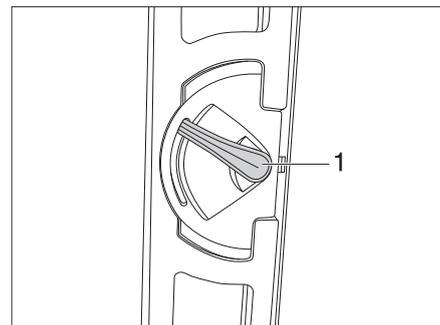
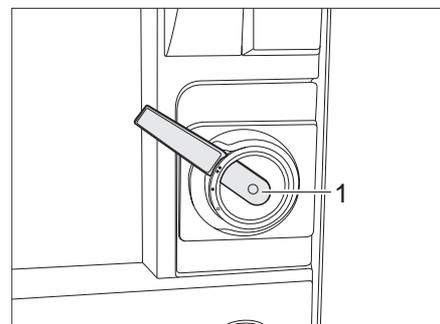

Fig. 22 Variant 1: Door lock of conversion door, inside, locked
Fig. 24 Variant 2: Door lock of conversion door, inside, locked
- Turn the handle (Fig. 22,1 or Fig. 24,1) approx. 45° upward and leave it in this position.